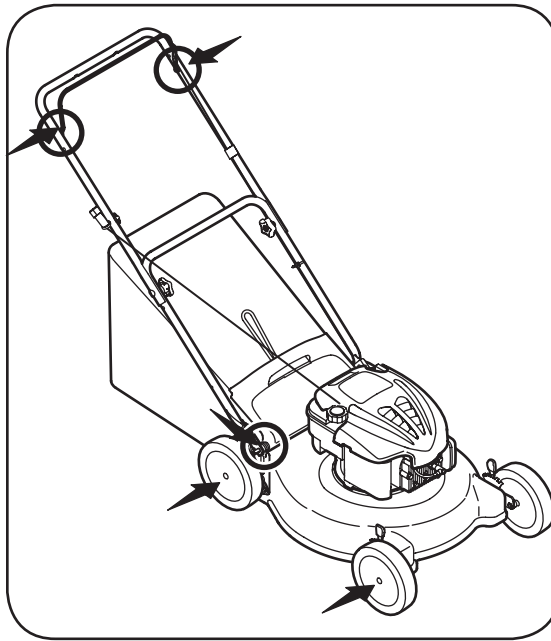

Figure 5-1: Areas to lubricate on the mower.
- Lubricate pivot points on the blade control at least once a season with light oil. The blade control must operate freely in both directions. See Figure 5-1.
- Lubricate the wheels at least once a season with light oil (or motor oil). If wheels are removed for any reason, lubricate surface of the pivot arm and inner surface of the wheel with light oil. See Figure 5-1.
- Lubricate the torsion spring and pivot point on the rear discharge door periodically with light oil to prevent rust. See Figure 5-1.